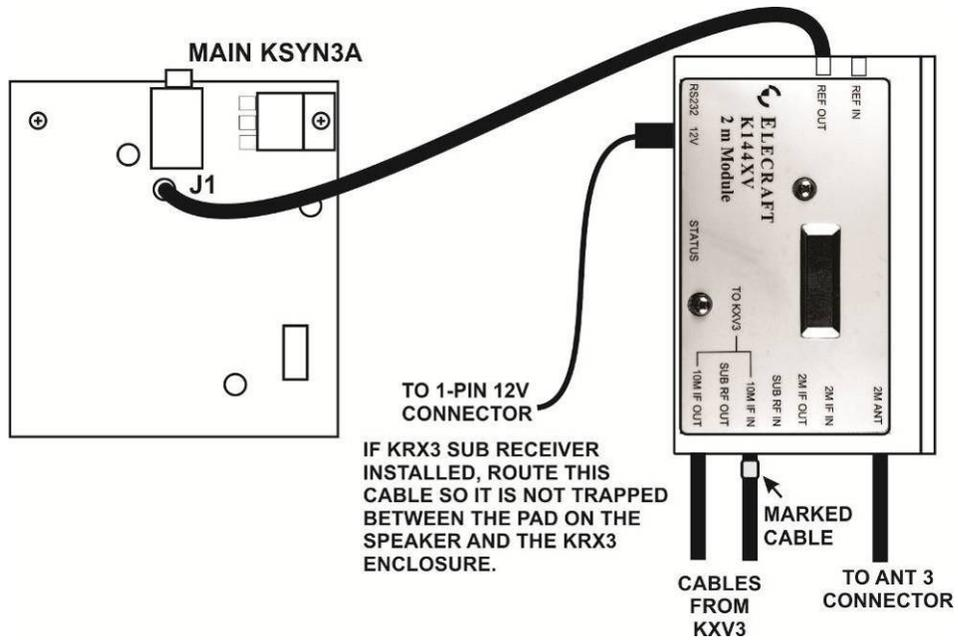

Figure 16. K144XV Cabling with KSYN3A and K144 Ref Lock.
- If you have the optional K144XV Ref Lock installed and your K3 has the new KSYN3A synthesizers installed, see Figure 16.